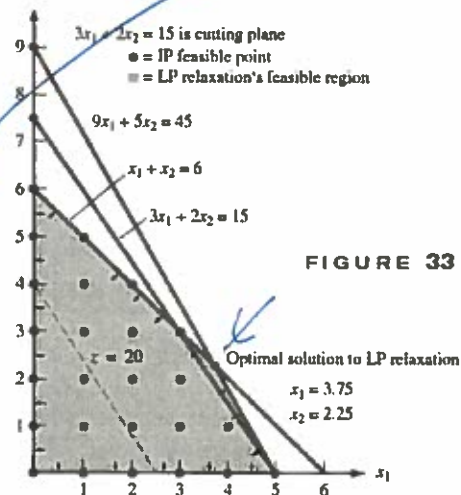

FIGURE 33
- We can now solve the LP problem with the new cut constraint. (See Figure 33 and Table 84.)